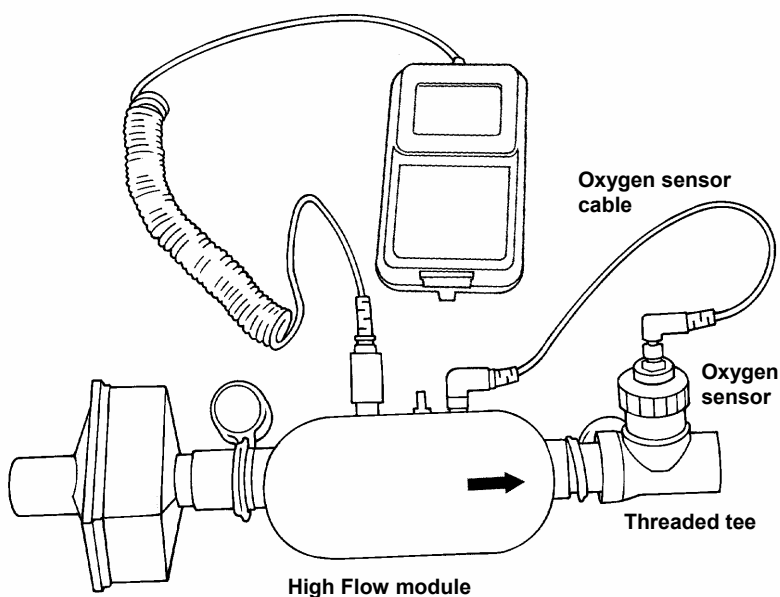

Figure 6. Attaching the Oxygen Sensor to the High Flow Module
4. High Flow module only: install the oxygen sensor (optional, **Figure 6**).